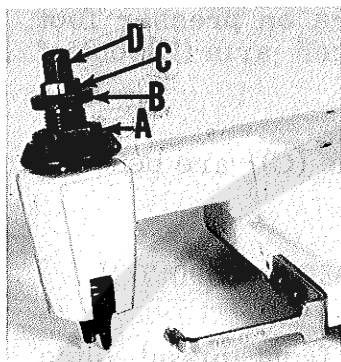

Fig. 2
Sufficient presser foot pressure to feed work uniformly should be maintained. Should it be necessary to increase or decrease amount of pressure on presser foot, loosen lock nut (A, Fig. 2) and turn adjusting screw (B). Adjusting screw has a right hand thread, so tightening increases pressure, loosening decreases pressure. When pressure adjusting screw (B) has been properly set, tighten lock nut (A). With presser foot resting on throat plate, position locking nut (C) so that its under surface is approximately $1/32$ to $1/16$ inch (.79 to 1.59 mm) from the top surface of adjusting screw (B). Set cap (D) against locking nut (C).